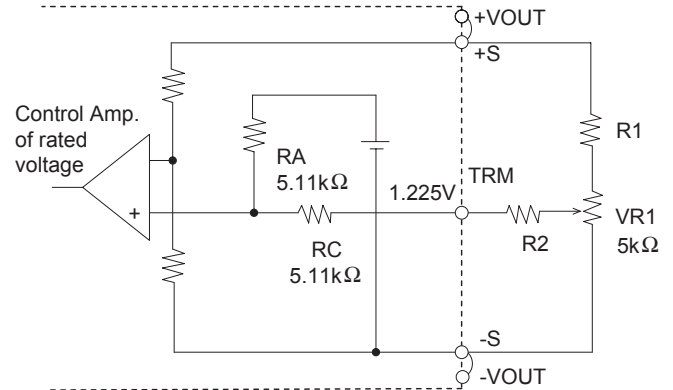

Fig.4.4 Output voltage control circuit
(1) Output voltage adjusting
■By connecting the external potentiometer (VR1)and resistors (R1,R2),output voltage becomes adjustable, as shown in Fig.4.4, recommended external parts are shown in Table 4.2.